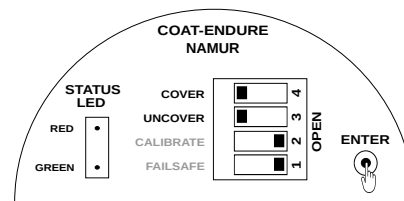

Figure 58: Setting of Low Current Configuration
- Press and Hold the ENTER key, RED Status LED will start blinking as per Figure 58.